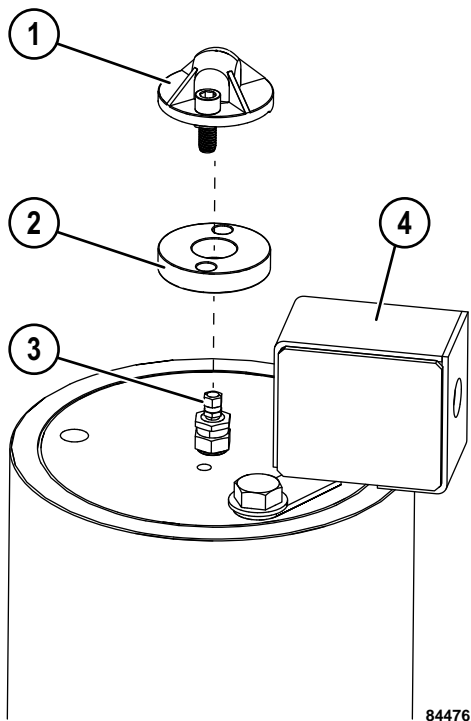

FIGURE 30-3. TOP OF PISTON ACCUMULATOR
3. Remove valve cover (1, Figure 30-3) and spacer (2).